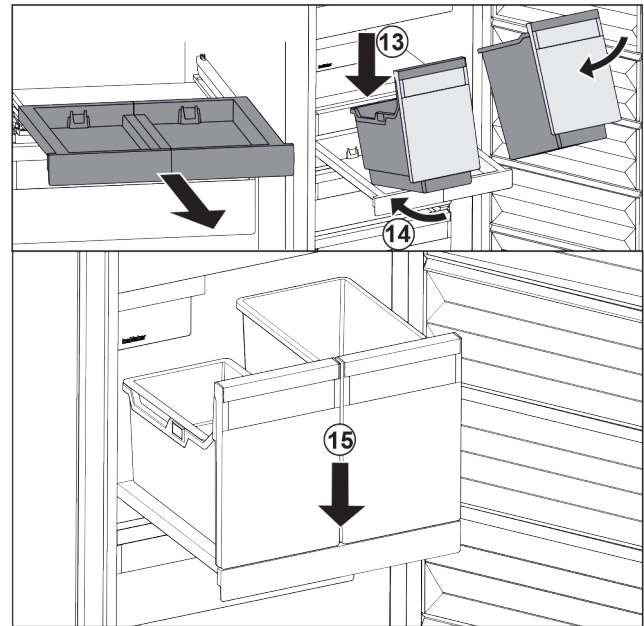

Fig. 90
- ▶ Place the container at an angle on the pull-out board. *Fig. 90 (13)*
- ▶ Slide in the container at an angle to the back. *Fig. 90 (14)*
- ▶ Place container at the front. *Fig. 90 (15)*